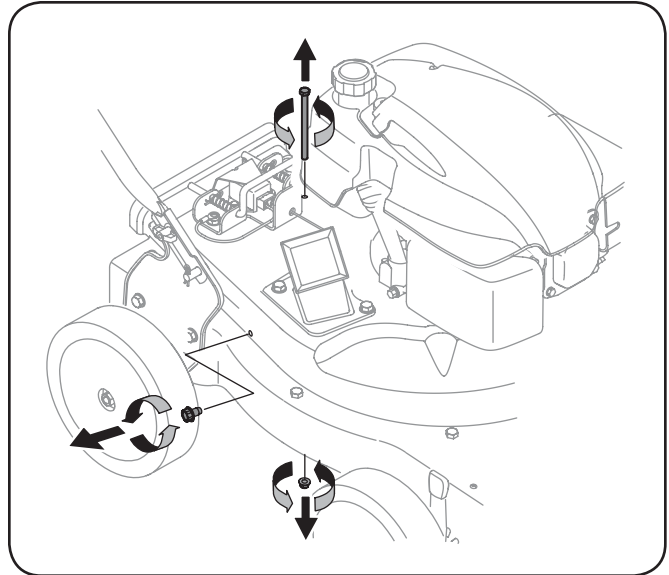

Figure 6-3
5. Remove self tapping screw on right side of unit that attaches to the flail screen. It may be necessary to remove the hose bracket hanger to get access to the screw. See Fig. 6-3.
6. Remove hex screw on top of rear housing near mounting bracket and the flange lock nut that secures flail screen. See Fig. 6-3.